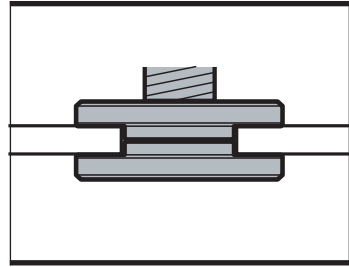
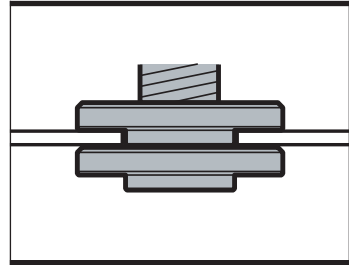

Fig 5a
Fig 5b
The outer flange (5) should be adjusted to suit different disc thickness. For thinner cutting or diamond discs the raised part of the outer flange is fitted facing away from the disc (See Fig 5b). For thicker grinding discs the raised part of the outer flange is fitted facing the disc to provide improved support for the disc hole (See Fig 5a). Always ensure your disc is securely clamped.